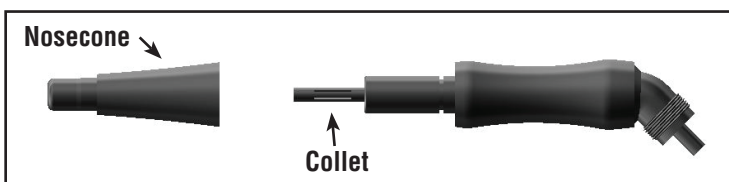

Figure 1
- The nosecone has been properly assembled with the handpiece (Figure 1).
- For convenience, the nosecone is removable for easy access to the collet (Figure 1).